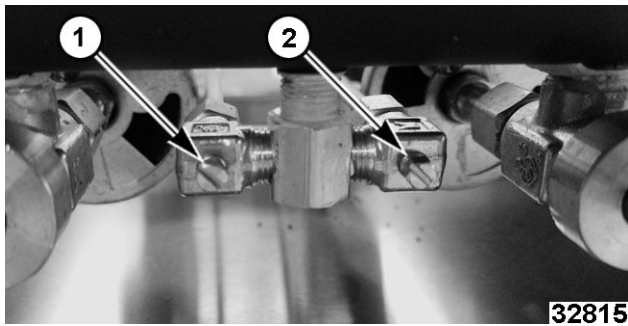

Fig. 109
3. Locate pilot adjustment screw (1-Rear, 2-Front, Fig. 109).